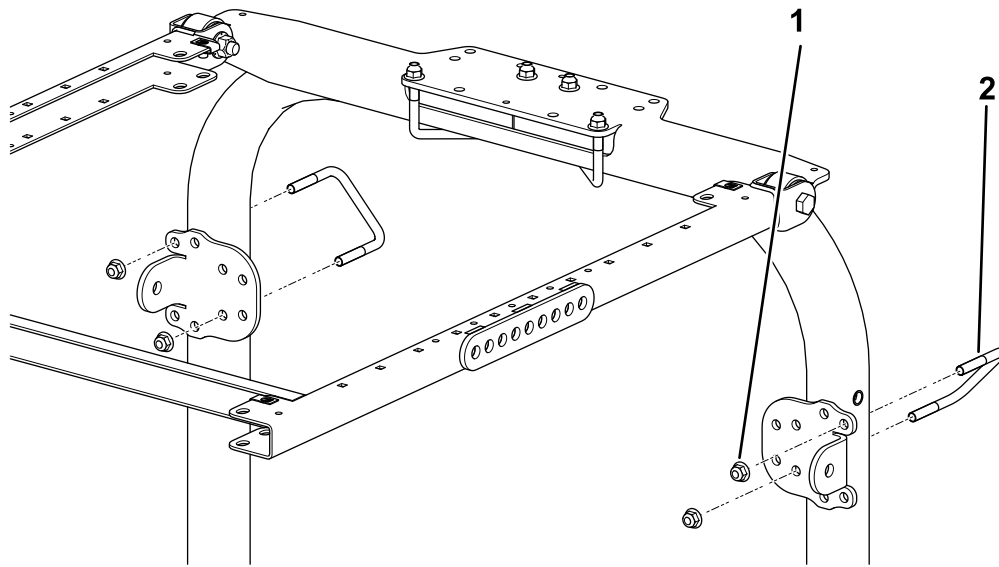

Figure 47
4. Using the mounting holes shown in Figure 47, loosely secure each of the brace brackets to the roll bar posts with a U-bolt (3-1/2 x 2-3/4 inches) and 2 flange nuts.